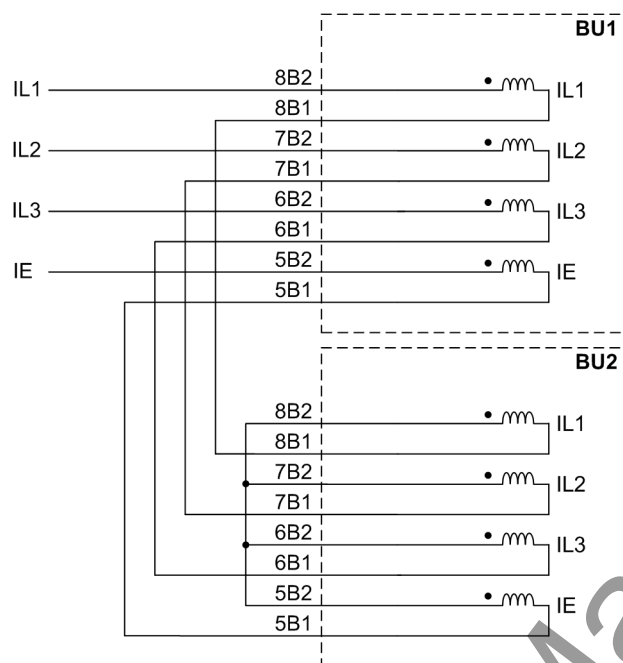

Figure 7-1 Connection of the current inputs of the bay units in bus couplers with only one current transformer.
- ❑ If you have couplers with one transformer, connect the current inputs of the bay units in series per phase (Figure 7-1, page 250).